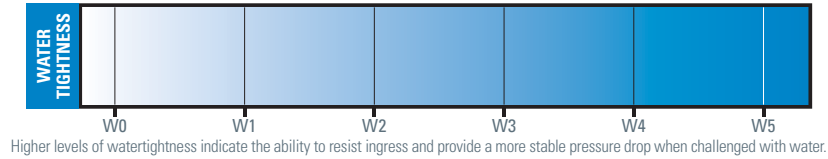
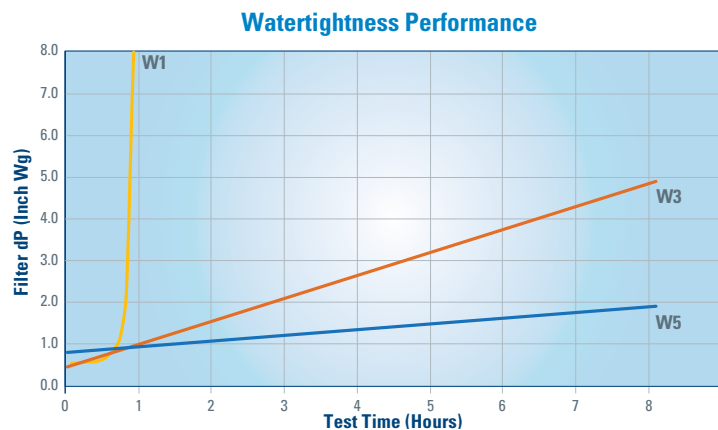

Figure 6: Higher levels of watertightness indicate the ability to prevent ingress and provide stable pressure drop when challenged with water.
Figure 7: Filter testing indicates how pressure drop increase is reduced with higher rated filters.
Based on this information, Donaldson is rating its gas turbine filters on a scale of W0 to W5, with higher values indicating greater watertightness. A filter rated at W0 would not be able to withstand any moisture, while a W5 filter could survive the test with at least 99.5 percent water stoppage and no more than a 2-inch water-gauge (WG) increase in pressure drop. A graphical display of these ratings is shown in Figure 6. Donaldson has tested and rated its most commonly used gas turbine air filters on this scale of watertightness. Figure 7 shows how higher rated filters reduce the increase in pressure drop over time.